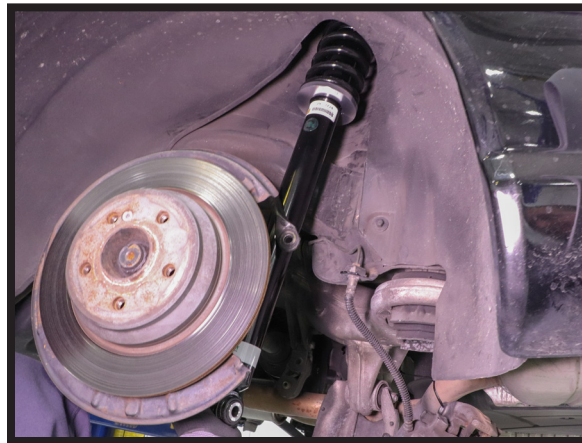

FIGURE 27
1. INSTALL THE SHOCK INTO THE VEHICLE. (FIGURE 27)